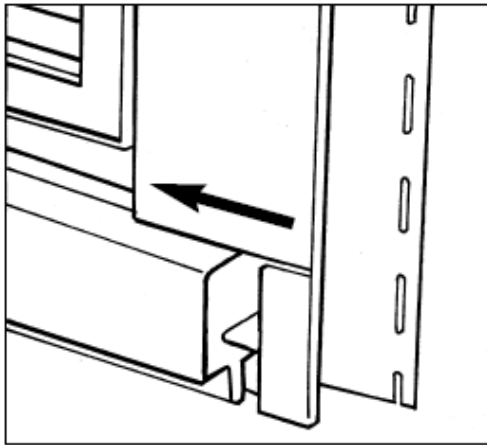

Figure 8
- 6) On the top, cut a 1" notch off the inside or starter side leg and an equal $7/8$ " notch out of the inside of the receiving pocket of the lineal. Trim foam down to the notches. (Figure 8)